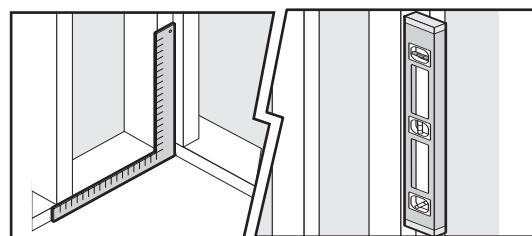

FIGURE 1. Check that studs are plumb with sub-floor/base.
- c. Sub floor must be clean, smooth, and level (Fig 1). Do not install shower base on open floor joists.